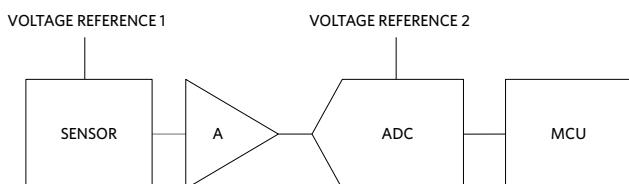

Figure 1. Sensing and Measuring Unit Typical Diagram
A diagram of a typical sensing and measuring unit is shown in Figure 1. The sensor converts a physical parameter—such as weight, temperature, or pressure—into an electronic signal. The signal is amplified (A), digitized (ADC), and fed to the microcontroller (MCU) for processing. Both the sensor and the ADC require a voltage reference for accurate operation. As such, there can be hundreds of references embedded within the instrumentation of a single industrial plant.